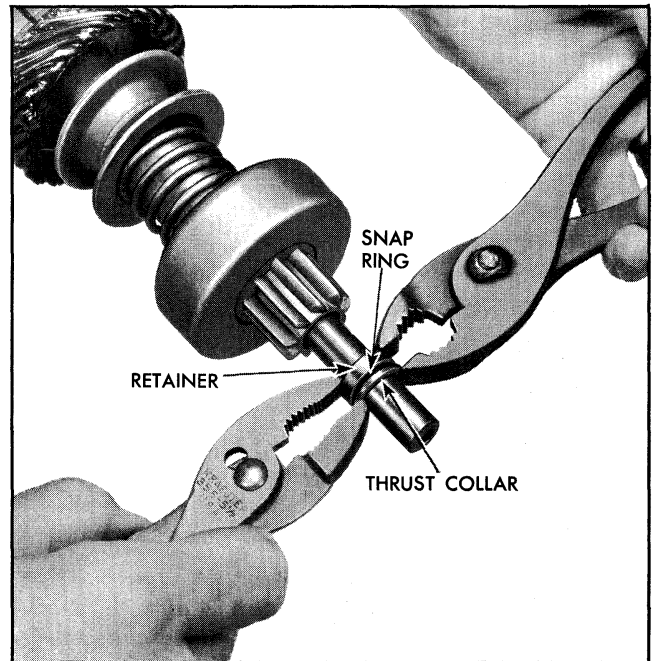

Fig. 11-15 Forcing Retainer Over Snap Ring
e. Assemble thrust collar on shaft with shoulder next to snap ring (Fig. 11-15).
f. Place armature flat on work bench, and position retainer and thrust collar next to snap ring. Then, using two pairs of pliers at the same time (one pair on either side of shaft), grip retainer and thrust collar and squeeze until retainer is forced over snap ring (Fig. 11-15).